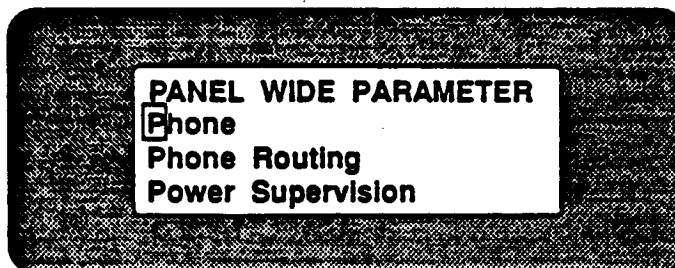

Figure 10: CATEGORIES IN THE 7112 PANEL WIDE PARAMETERS MODULE MENU
Categories within the D7112 Panel Wide Parameters section appear in the LCD display (see Figure 10). These correspond to the Panel Wide Parameters categories shown on the D7112 Program Record Sheet (Phone, Phone Routing, Power Supervision, etc.). Move the cursor through the category titles with the red ↓ and ↑ keys. Three categories are always displayed in the Panel Wide Parameters menu. When the cursor is moved down from the last category (**BELL PARAMETERS**), the first category (**PHONE**) scrolls into view.
Scroll through the Panel Wide Parameter categories (using the red ↓ and ↑ keys) until the cursor flashes on **Phone** (see Figure 10). Press the red ENTER GROUP key.
2. Enter a phone number by pressing number keys on the programmer keyboard: (Example: 14155551212 in Figure 10).